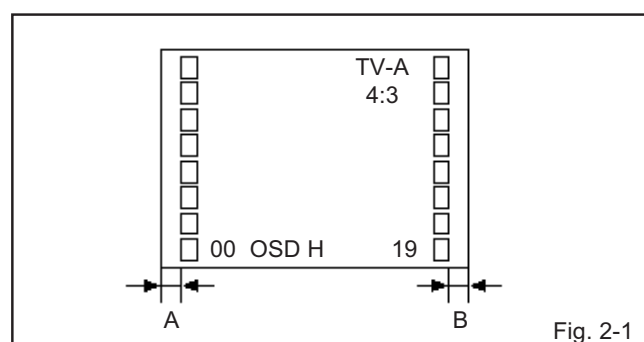

Fig. 2-1
2. Press the LEFT/RIGHT button on the remote control until the difference of A and B becomes minimum. (**Refer to Fig. 2-1**).